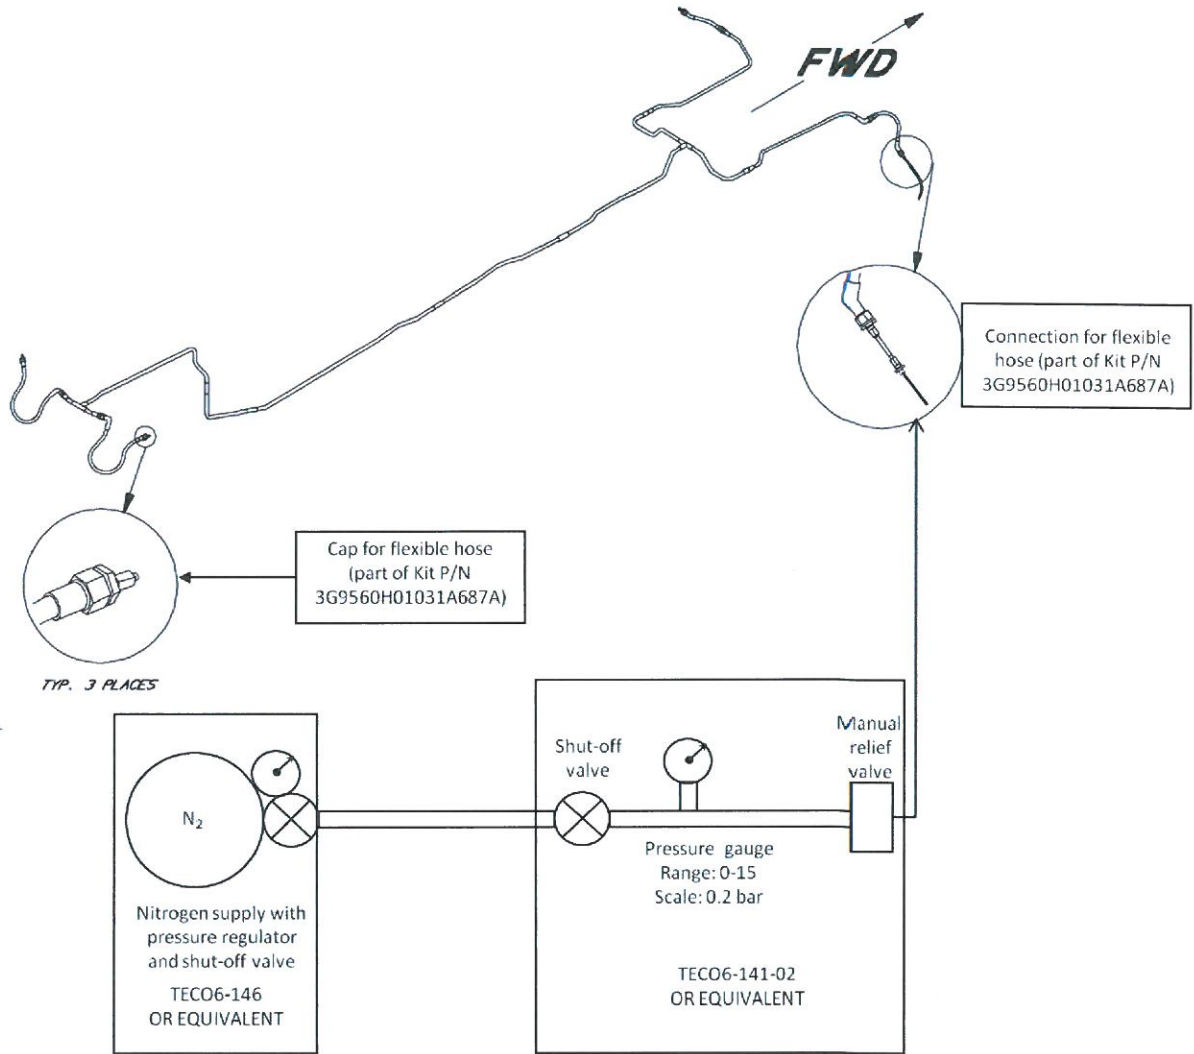

Figure 1 **Leakage test setup**
- a. Install caps⁽¹⁾ at the extremity of three flexible hoses (see Figure 1).
- b. Connect the N2 supply⁽²⁾ to an appropriate pressure control system⁽³⁾ (see Figure 1).
- c. Connect, by using the adapter⁽¹⁾, the N2 supply to the fourth (i.e. the unplugged) flexible hose (see Figure 1).